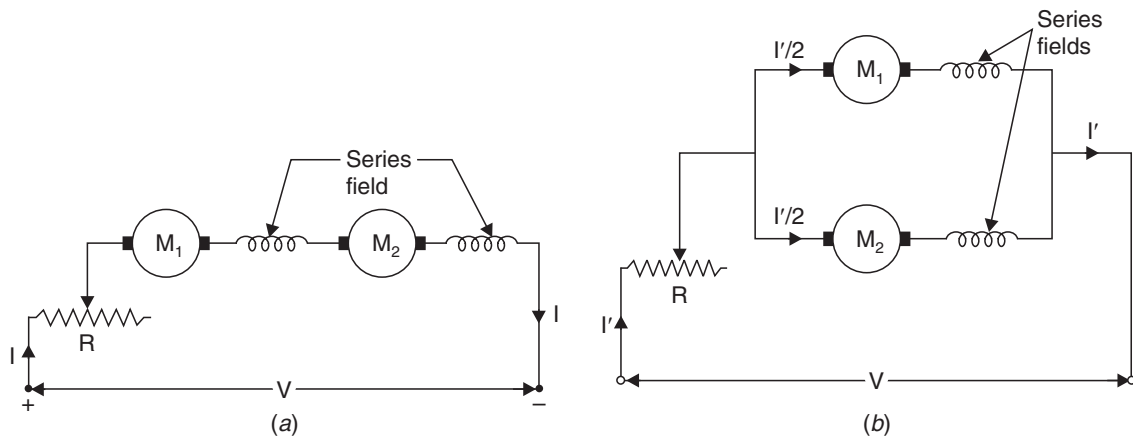

Fig. 91. Series-parallel control.
- **At low speeds** the *motors are joined in series* as shown in Fig. 91 (a). The additional resistance is gradually cut-out by controller as the motors attain the speed, and finally the resistance is totally removed, then *each motor has half of line voltage*. In this arrangement, for *any given value of armature current*, each motor will run at *half of its normal speed*. As there is no external resistance in the circuit, therefore *there is no waste of energy and so motors operate at an efficiency nearly equal to that obtainable with full line voltage across the terminals of each motor*.
- **At high speeds the motors are joined in parallel** as shown in Fig. 91 (b). The variable resistance R is gradually cut out as motors attain the speed. After the resistance R is completely cut out each motor is connected across the full line voltage.